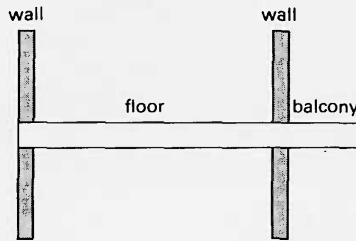

Figure A63
- c** Figure A63 shows a pre-stressed concrete beam being used to support both a floor and adjoining balcony in a building. Steel reinforcing bars are set in the concrete and tightened before the beam is put in position. Copy the figure and indicate where, in the beam, two rods should be put and justify the positions you have chosen. What advantage does this pre-stressed concrete have over unstressed concrete?